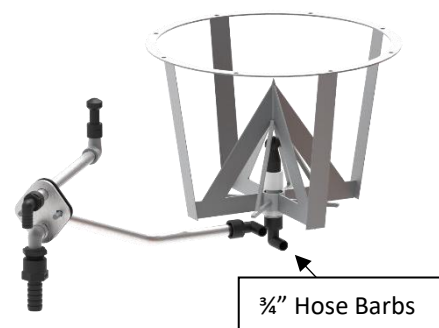

Figure 4.5: Knife Kit Installed
5. Use fifteen inches of $\frac{3}{4}$ " hose to attach hose barb to hose barb on Jug Knife frame. (Figure 4.5)